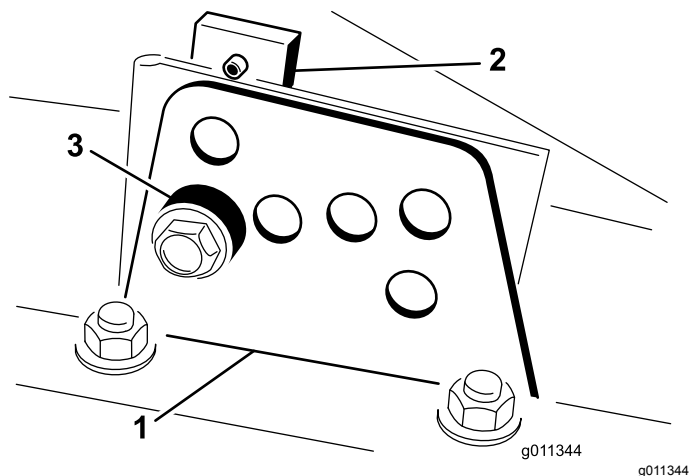

Figure 24
2. Loosen the bolt securing each height-of-cut bracket to the height-of-cut plate (front and each side) as shown in Figure 24.
4. While supporting the chamber, remove the spacer (Figure 24).